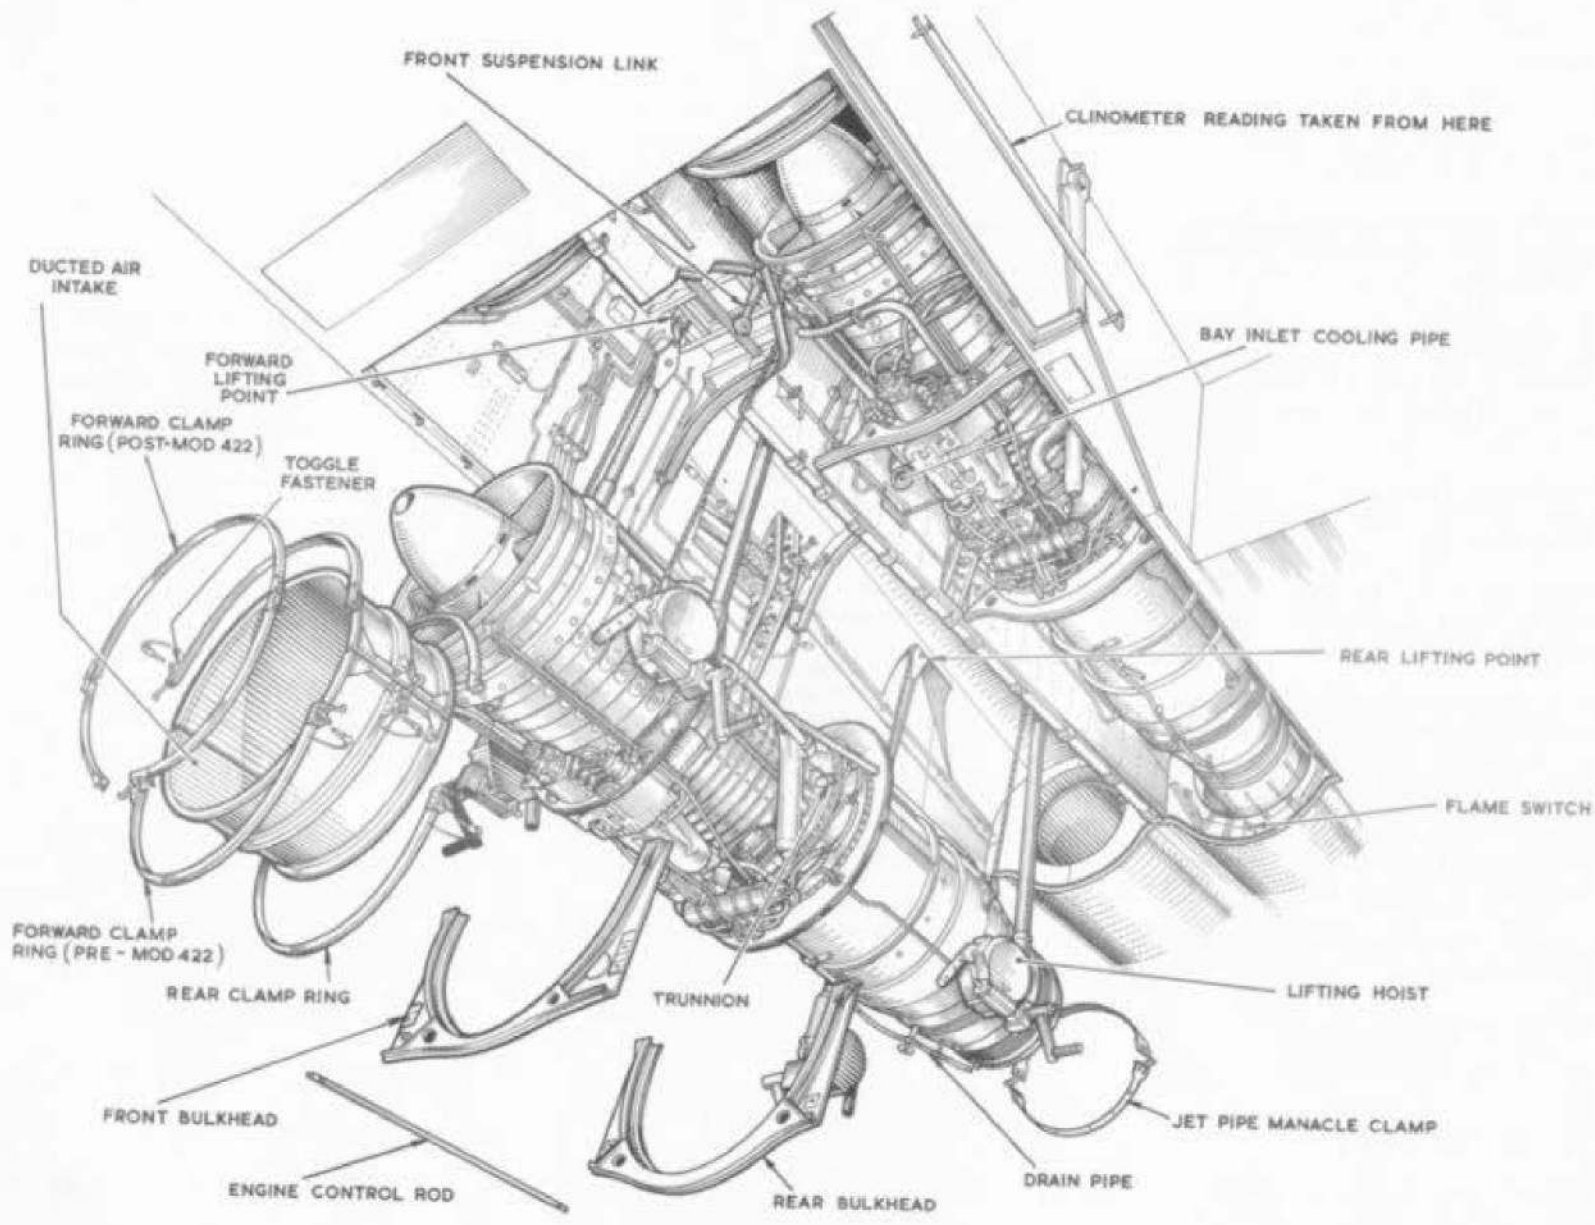
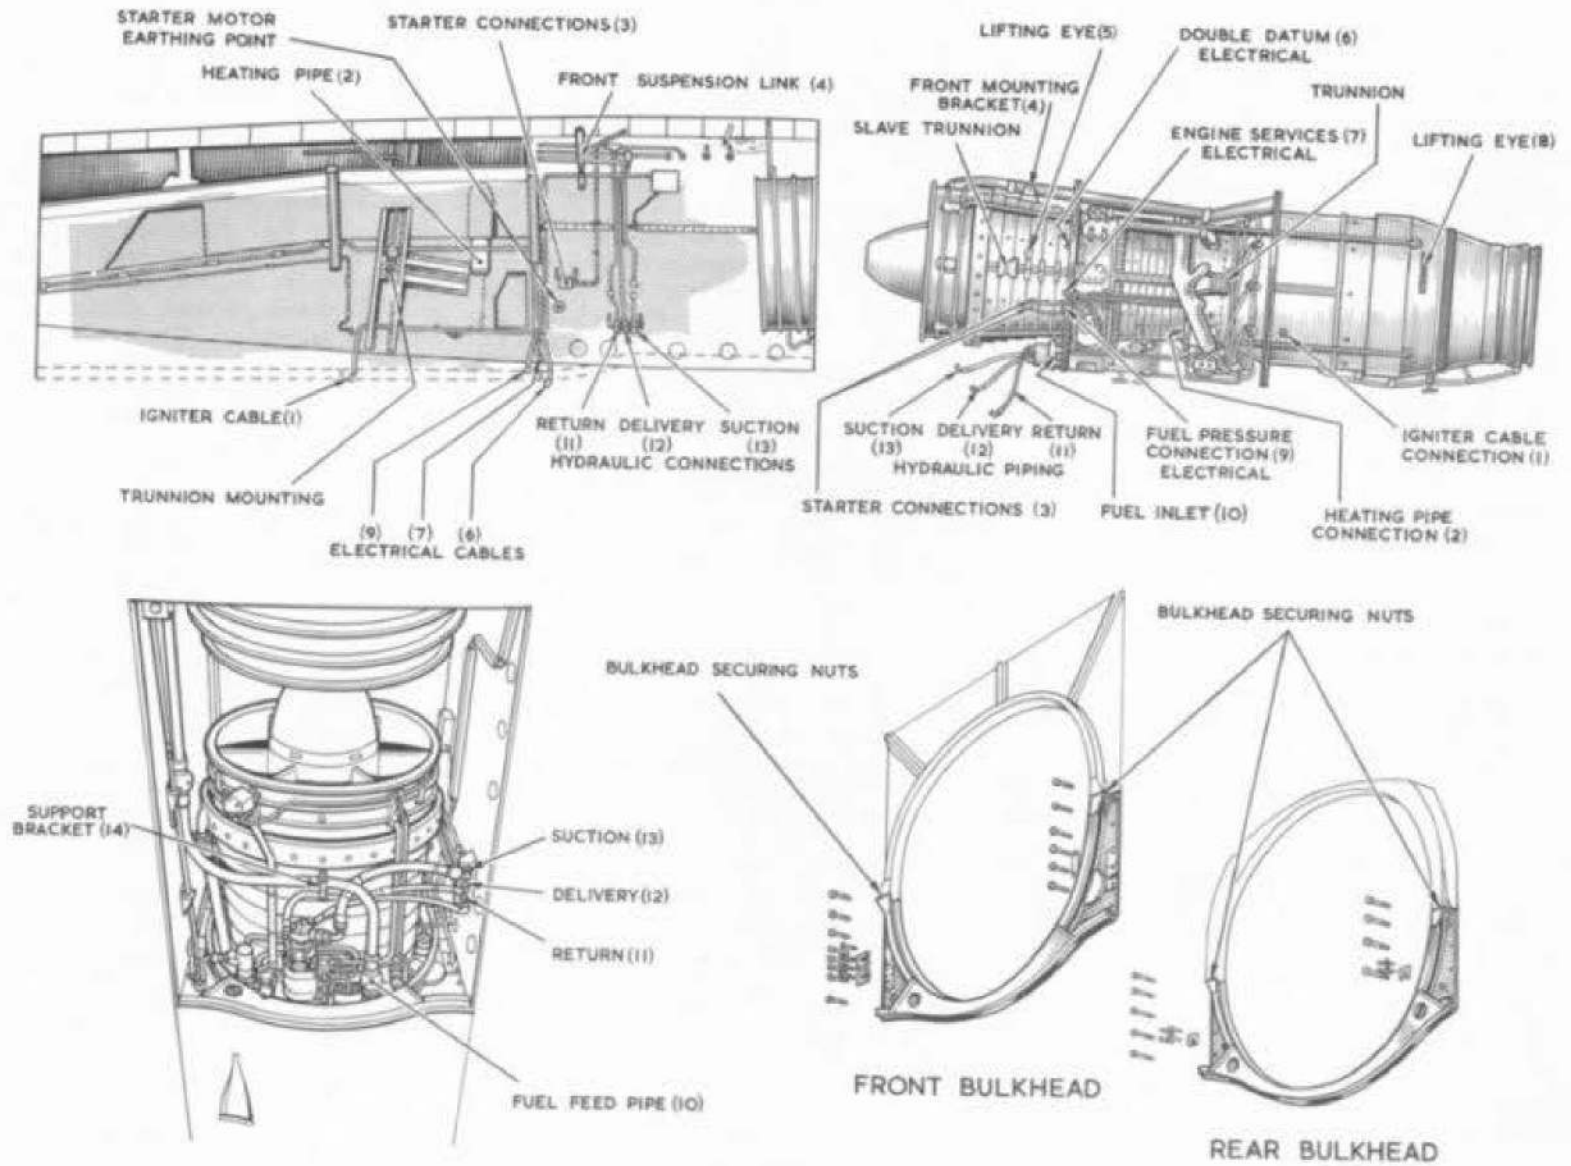

Fig. 4. Engine removal (I)
Fig. 5. Engine removal (2)
NOTE- FIG. 5. AND FIG. 6 ILLUSTRATE THE No. 1 ENGINE REMOVAL; REMAINING ENGINES ARE REMOVED IN A SIMILAR MANNER EXCEPT FOR HANDING OF COMPONENTS.
59. Release the three toggle fasteners (fig.4) of the ducted air-intake, one secured to the centre stiffening channel and two removed with the sealing rings; remove both halves of the intake.
*On aircraft fitted with Mod.422, the front clamp ring on the removable air intake is removed or assembled by releasing the bottom toggle fastener as illustrated in fig.4.*
60. After closing the low-pressure cocks, use a C spanner to release the nut of the main fuel feed pipe fitted to the "King" coupling on the e.c.u. (fig.5, item 10) and also release the nut of the pipe joint on the engine bay rib. Disconnect the pipe from the support bracket (fig.5, item 14) on the front of the L.P. compressor and remove the pipe.
the engine bay rib, one lead being connected to an earthing stud and the other to a junction box, the cover of which is secured by two screws (fig.5, item 3).
63. Disconnect the three Avery couplings of the hydraulic pump pipes from the bracket on the engine bay rib (fig.5, items 11, 12 and 13).
- (1) Fuel low pressure warning indication (fig.5, item 9).
- (3) Hot air valve actuator, engine anti-icing actuator and L.P. compressor R.P.M. indicator (fig.5, item 7).
- (4) R.P.M. governor (fig.5, item 6).
66. The front bulkhead may now be taken off as follows (fig.5):-
69. Remove the manacle clamp securing the aircraft de-icing, cabin heating and pressurisation system supply pipe to the e.c.u. and also the manacle clamp at the first joint of the pipe situated on the engine bay rib (fig.5, item 2). Remove this section of the pipe entirely.
by two bolts and two dowels. Release the bolts and remove the pipe (fig.4).
72. On each side of the rear bulkhead are the igniter plug cable fairleads, held in position by four 2 B.A. bolts. Remove the bolts, disconnect the cables from the igniter plugs and pass them through the bulkhead (fig.5 and fig.6, item 1).
73. The rear bulkhead (fig.5) is now taken off by removing the 2 B.A. bolts parallel to and vertical with the bay and the 3/16 in. B.S.F. nuts securing the two halves of the bulkhead together.
provided in the engine bay roof and the hoist cables to the appropriate lifting eyes on the L.P compressor and turbine annulus (fig.5, items 5 and 8); take the weight of the e.c.u. (fig.4).
- (1) Disconnect the front suspension link (fig.5, item 4).